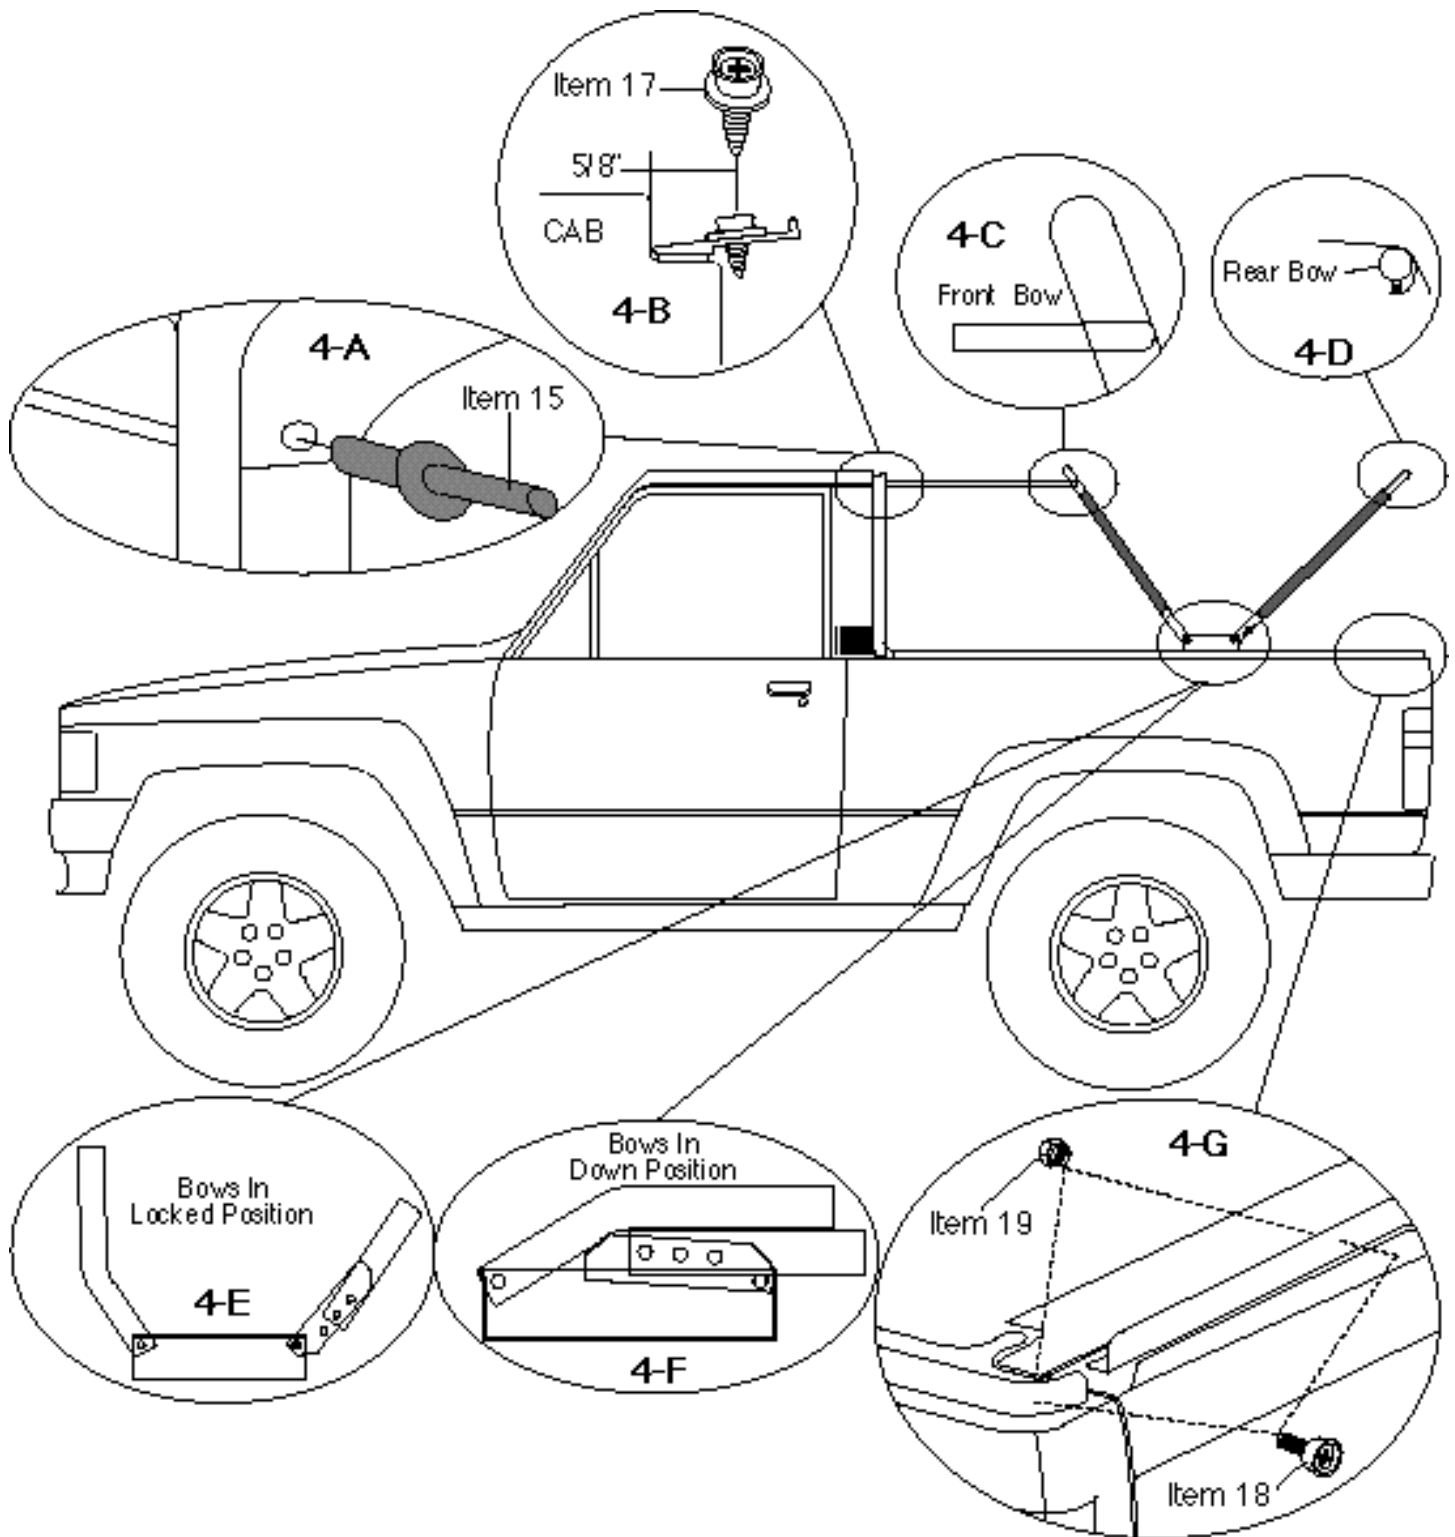

**Figure 3**
**Step 4. Bow Mount.** Measure 42" from vertical edge at rear of cab and mark for position of bow mount (Item 6). Place front of bow mount at this point. The rear inside hole in bow mount should be above directly over an original hard top mounting hole (fourth hole from cab). Using bow mount as a template, mark and drill two 5/32" holes, one at the front outside of bracket and one at the rear outside of bracket. Secure with #14 x 1/2" hex head sheet metal screws (Item 7). Repeat for the other side. See figure 3.
**Step 5. Bows.** Secure bow release bracket (Item 8) to bow mount by placing 1/4-20 x 1 1/2" hex head bolt (Item 9) through one side of bow mount, the bow release bracket and the other side of bow mount. Secure with 1/4-20 lock nut (Item 10). These items must pivot so do not over tighten. Repeat for other side. Place bow sleeves (Item 11) over rear bows (Item 12). Slide rear bow halves together. Mount rear bow into center set of holes in bow release bracket by placing 1/4-20 x 1 1/2" hex head bolt (Item 9) through one side of release bracket, rear bow and then through the other side of release bracket. Secure with 1/4-20 lock nut (Item 10). Again these items must pivot so do not over tighten. Repeat for other side. Slide bow sleeves (Item 11) over front bow halves (Item 13). Place front bow into front of bow mount so that the large holes in bow are facing towards the front of vehicle. Secure front bow to bow mount with 1/4-20 x 1 1/2" hex head bolt through one side of bow mount, front bow and other side of bow. Secure with 1/4-20 lock nut. Once more these items must pivot so do not over tighten. Repeat for other side. See figure 3.